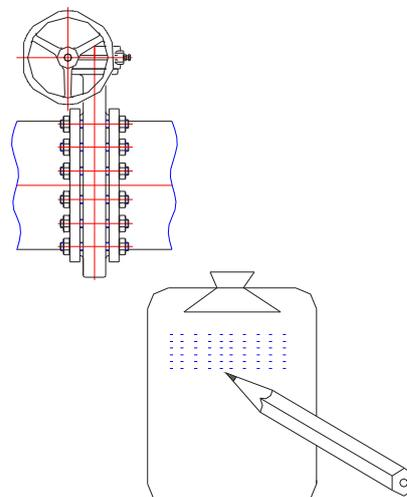

Fig.30
17.3.5 If there are any problems could not be eliminated during service - Please contact DVC A/S and describe damage condition then we could serve you as sooner as we could. (Fig.30)